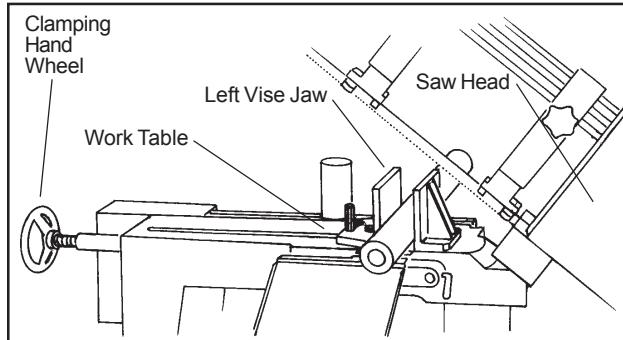
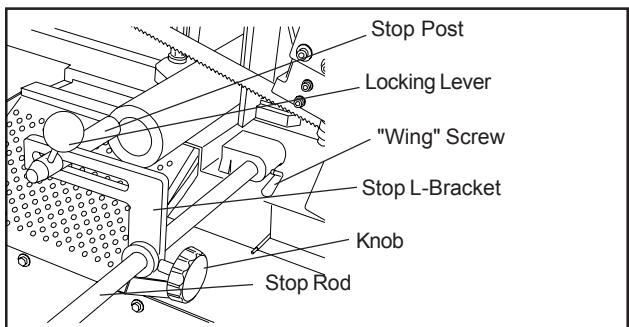

Figure 5: Securing workpiece
Figure 8: Work stop
1. Raise the saw head (refer to Figure 5).
1. Referring to Figure 5, loosen the angle locking screw and the pivot screw on the left vise jaw.
Figure 5: Securing workpiecThe work stop is used to set up the saw for making multiple cuts of the same length (see figure 8). Install and adjust the work stop as follows: